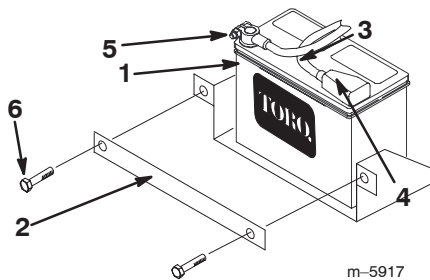

Figure 1
2. Remove the bolts, nuts, and clamp securing the battery (Fig. 1).
9. Secure the battery in chassis with the clamp, bolts, and nuts removed previously (Fig. 1).
10. Using the bolt and nut supplied with the battery, connect the positive (red) cable to the positive (+) battery post (Fig. 1). Slide the rubber cover over the battery post.
11. Using the bolt and nut supplied with the battery, connect the negative (black) cable to the negative (–) battery post (Fig. 1).